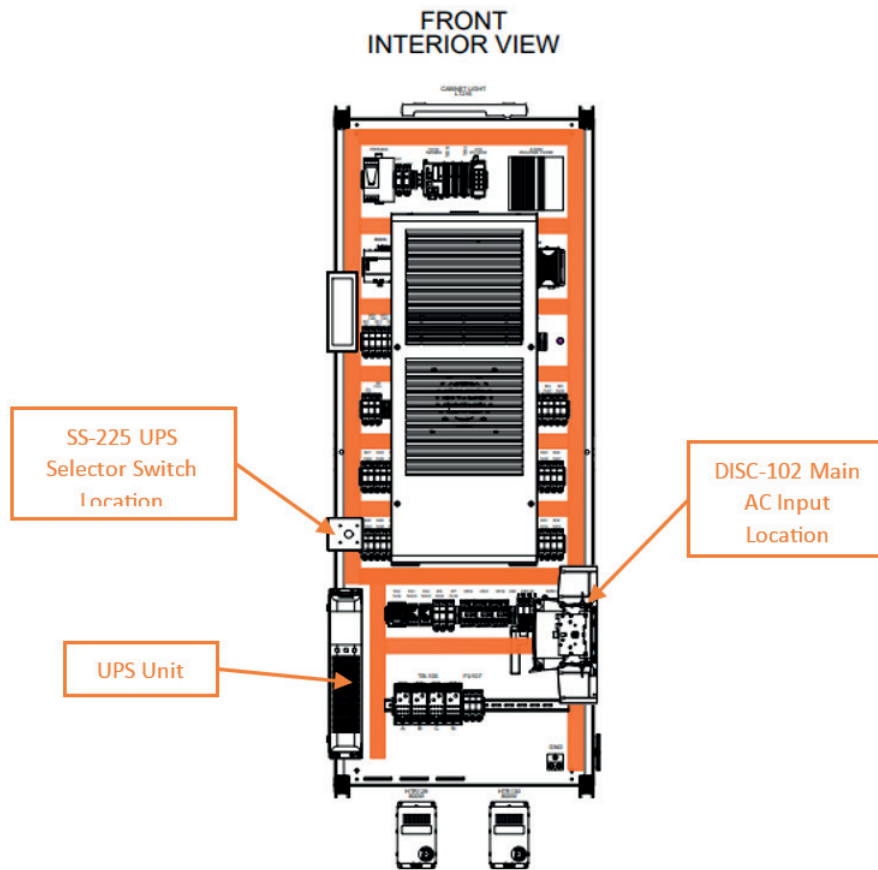
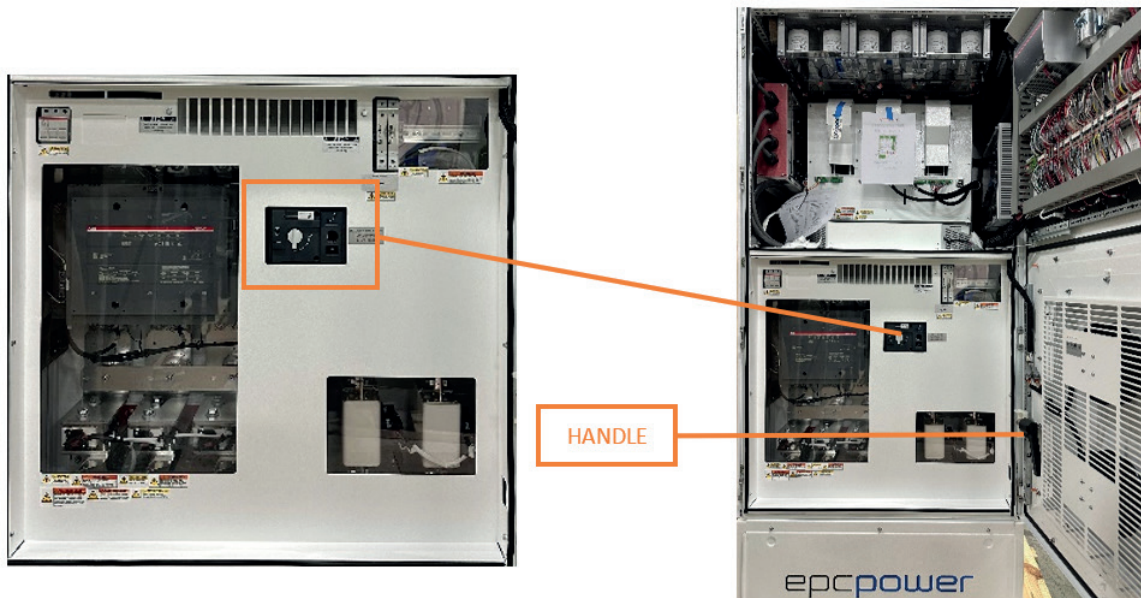

Figure 157. Location of M-Cab XXL Main Disconnect Switch and UPS
Figure 158. C-Cab XXL DC Disconnect Location
3. **Switch on the UPS:** UPS unit located inside the M-Cab XXL selector switch SS-225. UPS selector switch has 3 positions. Left side of switch is for UPS mode, Center of switch is OFF, and Right side of switch is BYPASS. If the UPS is powered for the first time or the unit does not turn on automatically, the UPS may require an extra step to turn on the UPS power switch. Refer to Figure 157.
2. Identify the Power Switch: Locate the main power switch on the system. It's typically marked with an 'I' for on and an 'O' for off. Refer to Figure 157, and Figure 158.